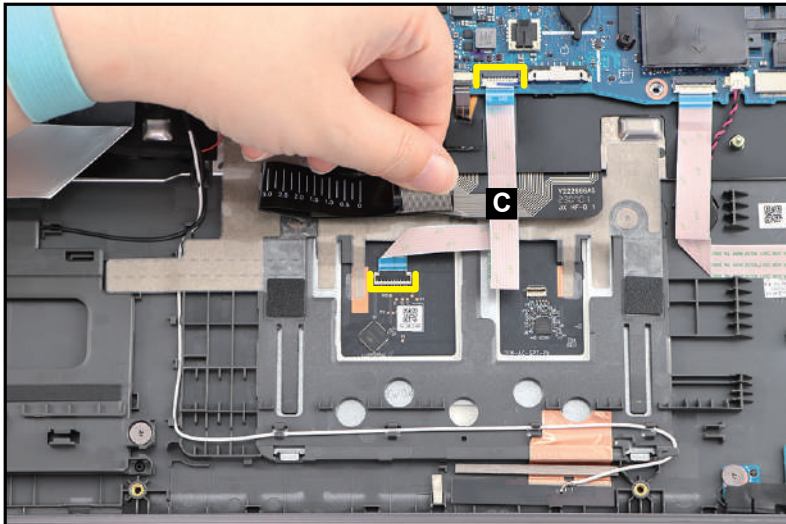

Figure 3-49. Touchpad Module Removal
4. Disconnect the touchpad FFC (C) from the touchpad module and mainboard connectors (Figure 3-49). Then remove the FFC.